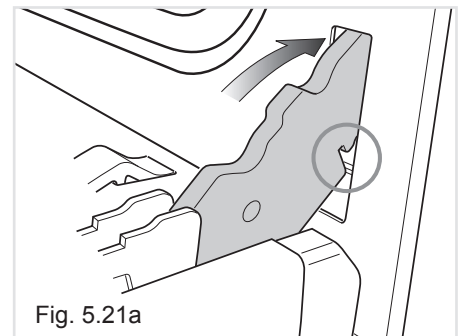

Fig. 5.21a
- Insert the hinge tongues into the slots, making sure that the groove drops into place as shown in the fig. 5.21a.